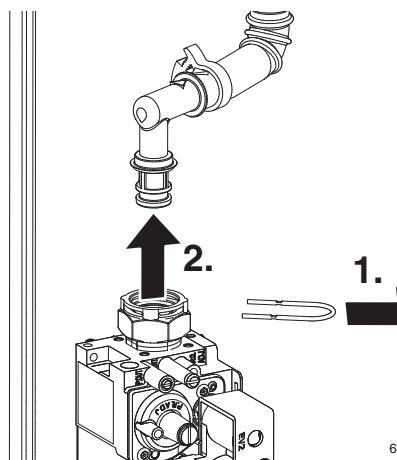

Fig. 72 Gas valve upper connection
1. Refer to figure 72 and remove the wire clip from the gas valve outlet.
► Remove wire clip from gas valve outlet then pull gas pipe free from the gas valve (see figure 72).